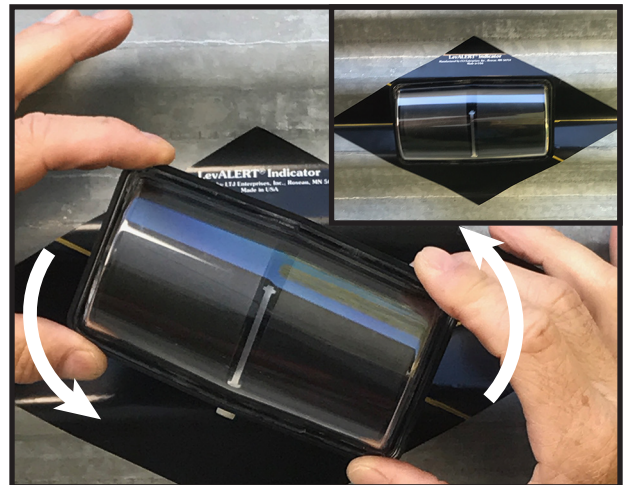

Figure 3c
- c. Align pegs on indicator body with the slots of the activator. (See alignment markings on locator) Push straight in until it bottoms out. Now turn counterclockwise to snap/lock into place. **See Figure 3c**